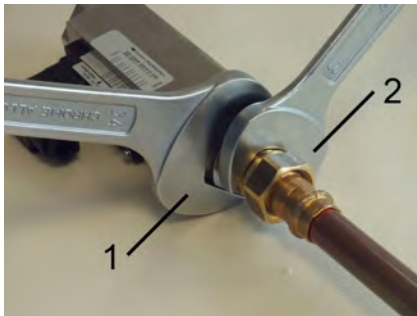

Fig. 12: Screw in the device
2. Fasten the adapter union of the pipeline with an appropriate spanner (Fig. 12/2). When doing so, lock the process connector in place to prevent slip, using a suitable spanner. (Fig. 12/1)